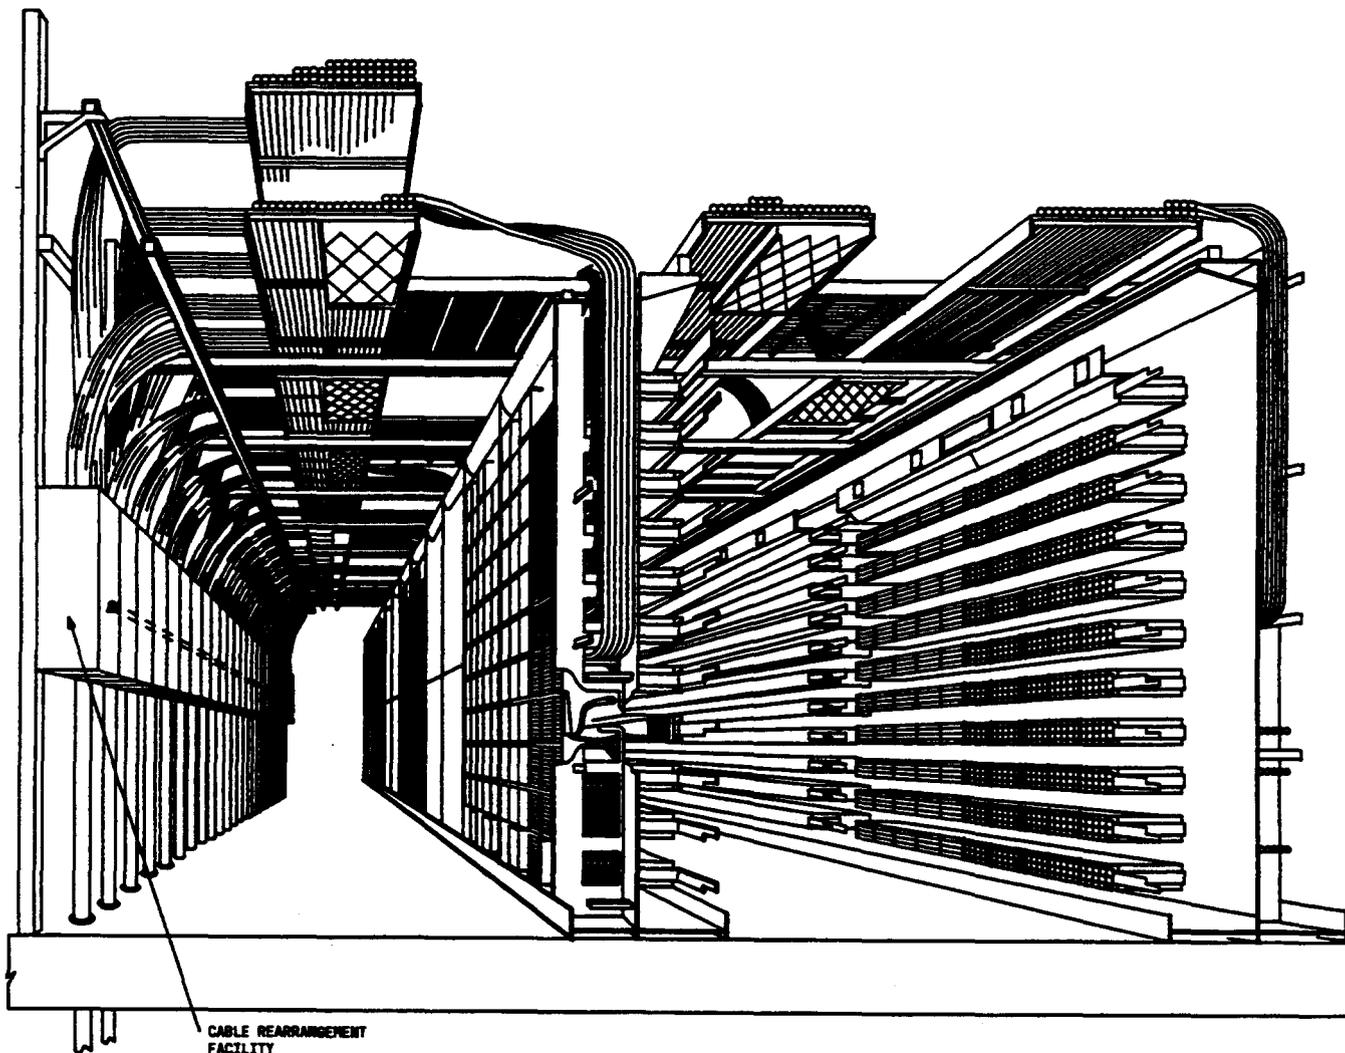

Figure 5—*COSMIC* IIA Frame System (Cutaway View Showing Cabling Details)
3.11 A modular cable racking system (Figure 5) minimizes cable congestion, and ensures that the *COSMIC* IIA DFs can be cabled to its capacity. The frame is equipped and cabled starting at the most convenient shelf height first, which increases craft efficiency.